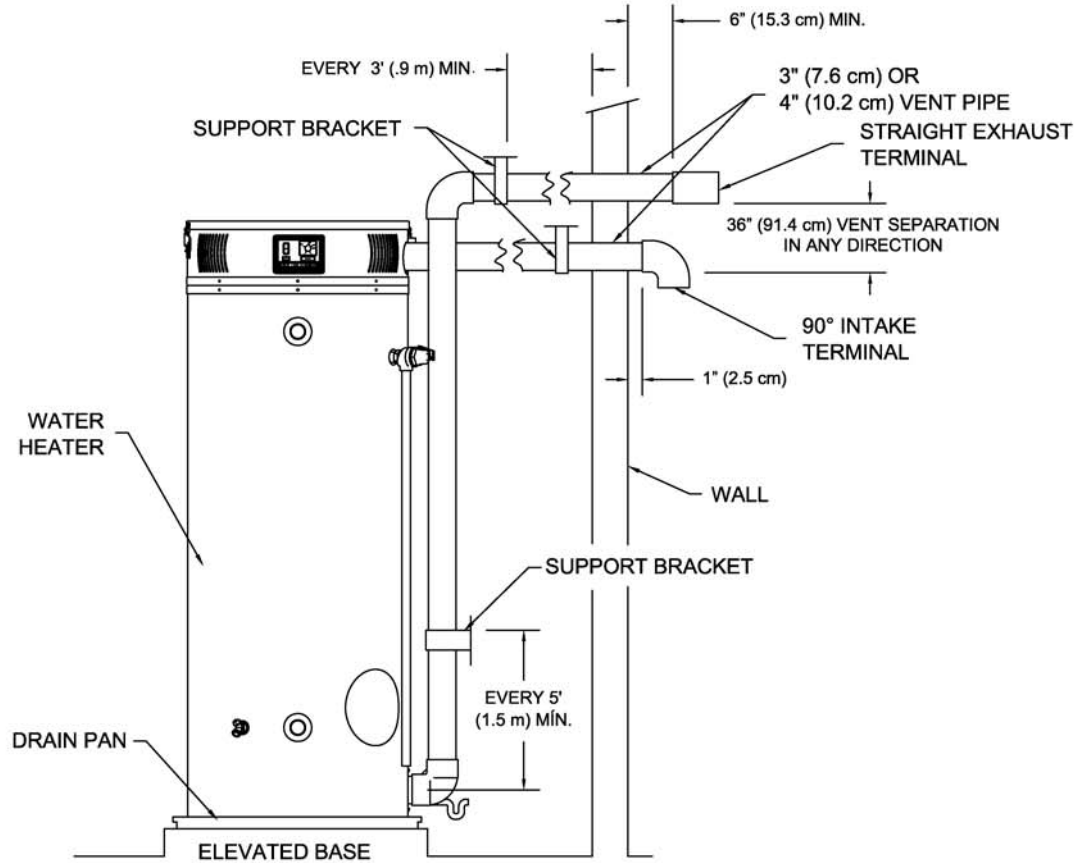

Figure 13. Typical Horizontal Direct Vent System
2. Use the proper cement primers to secure the exhaust vent and air intake terminals provided with the water heater to the vent pipes. The distance between the back edge of the exhaust vent terminal and the exterior wall (see Figure 13) must be 6 inches (15.2 cm) more for the exhaust vent terminal than the air intake terminal. Use the proper cement or sealant and assembly procedures to secure the vent connector joints between the terminal and the blower outlet. Provide support brackets for every 3 feet (.91 m) of horizontal vent beyond the intake terminal.